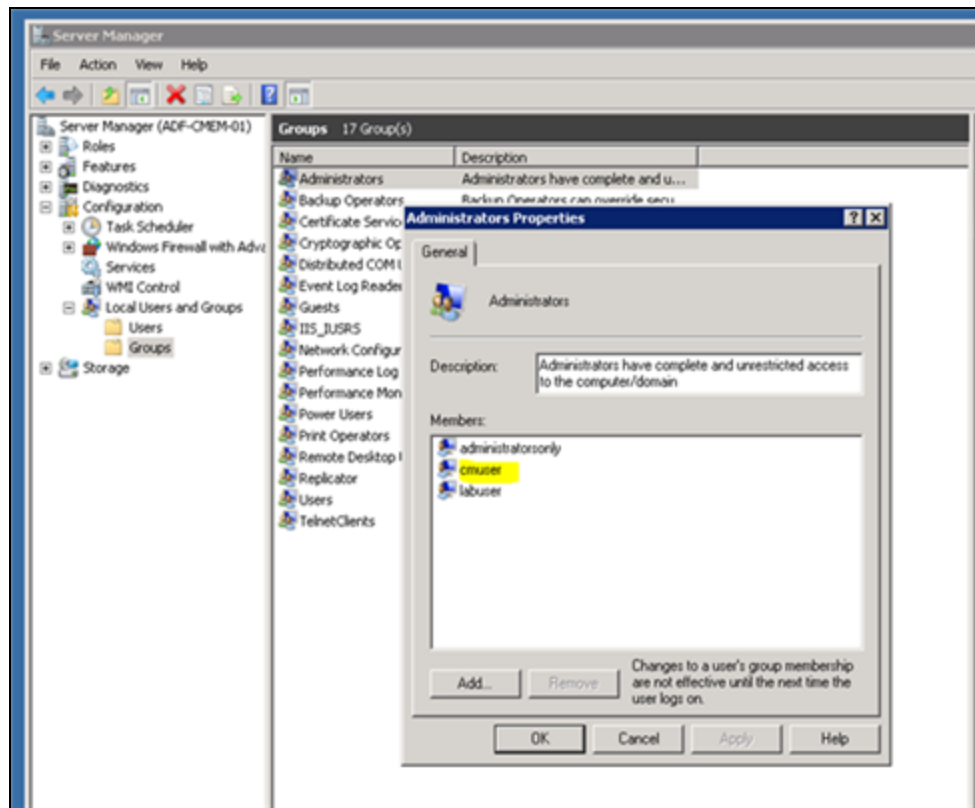

Figure 2.1: Adding the created local user to the Administrators group
- Clicking the **Administrators** group will invoke the **Administrators Properties** pop up window (see Figure 2.1)
- The user that you have created will be listed in the **Members** section as shown in Figure 2.1.